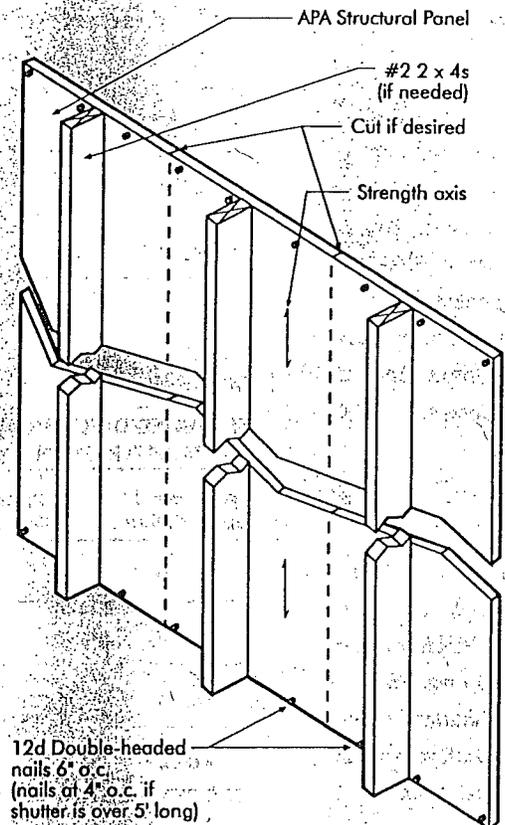

FIGURE 3A
4. Nail shims to the framing with 12d nails. Use 16d nails for shims over 3/4 inch thick. For spans up to 5 feet, space the nails 6 inches o.c. at each shim. For spans over 5 feet, space nails 4 inches o.c. at each shim. (Figures 3a and 3b)
5. Attach the shutters with double-headed nails for ease of later removal. (Figures 3a and 3b) Use 12d nails for shutters up to 3/4 inch thick and 16d nails for shutters over 3/4 inch thick. For spans up to 5 feet, space the nails 6 inches o.c. at each end of the shutter panel. For spans over 5 feet, space nails 4 inches o.c. at each end of the shutter